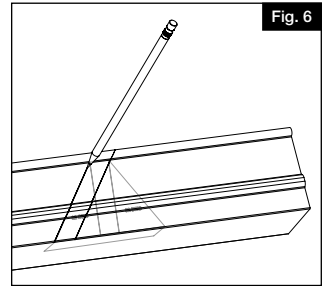
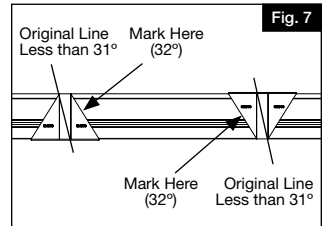

Fig. 6
Fig. 7
- Prior to installing round aluminum balusters, insert the provided foam strips into the top of the top rail and bottom of the bottom rails (sides opposite of routed holes). Cut to rail length. Then, remove 1" of the release paper from each end to expose adhesive (Fig. 6). Press fit the foam strips to rails (Fig. 7). DO NOT remove the release paper from entire strip – Only remove 1" from each end. For top rails 8' and longer in length, the strip will adhere to the aluminum stiffener instead of the top rail itself.
- From the original line created by the post, mark another line $\frac{1}{16}$ " on the inside of the bottom rail (closer to the baluster routes) (Fig. 6). This is accomplished by using the angle template (Fig. 7). This additional removal of material will allow for bracket clearance when the rail is installed. For this 26°-31° angle, the new line will NOT be parallel to the previously drawn line.